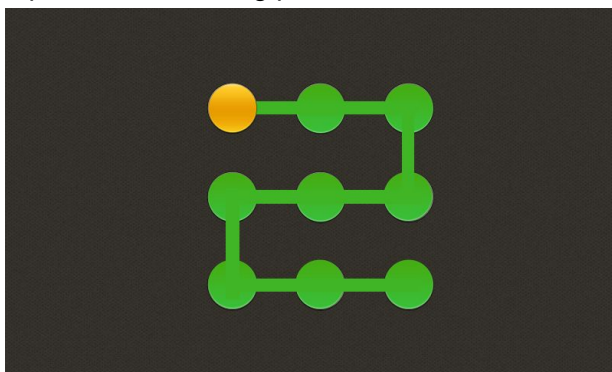

Figure 2-16
- ① If you don't want to set the lock pattern, click "return" to return to the main interface.
- ② If you click on the Continue button, then repaint just record lock pattern to complete the setting. The system automatically returns to the main setting interface afterwards.
5. When user forgets the lock pattern set up by himself, can use the system default lock pattern to unlock, as shown in Figure 2-16, yellow dots represent the starting point.